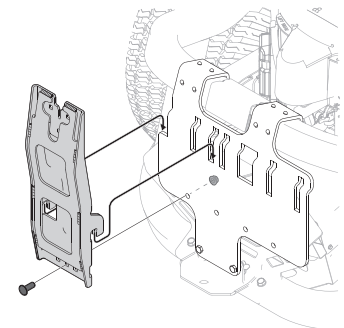

Figure 7
2. Install the vertical support bracket onto the mounting assembly on the tractor by hooking it over the mounting assembly as shown in Figure 7.
3. Secure the upright support bracket to the mounting assembly using a hex bolt (710-0376) and flange lock nut (712-04063) from hardware pack 689-01419. See Figure 7.